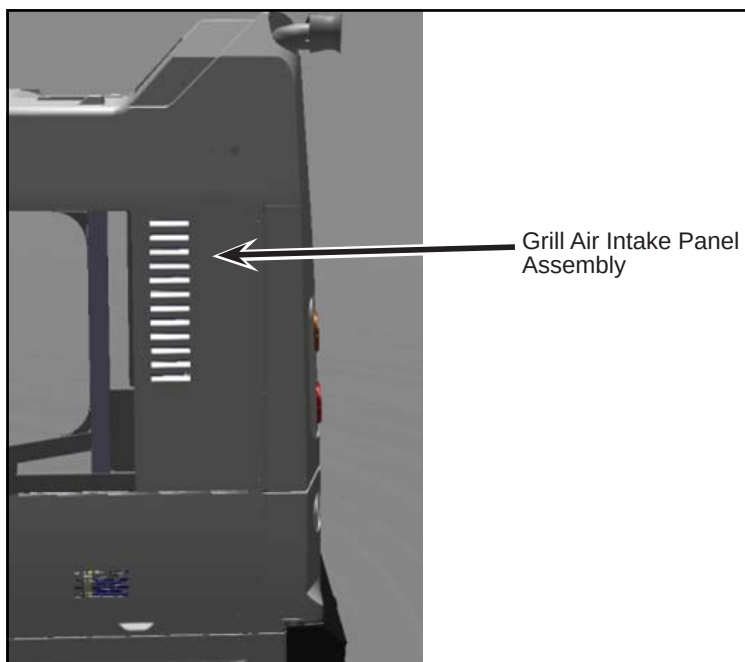

Figure 2 - Location of Grill Air Intake Panel Assembly
- 1.2. Open the grill air intake panel assembly and retain the hardware (see Figure 2).